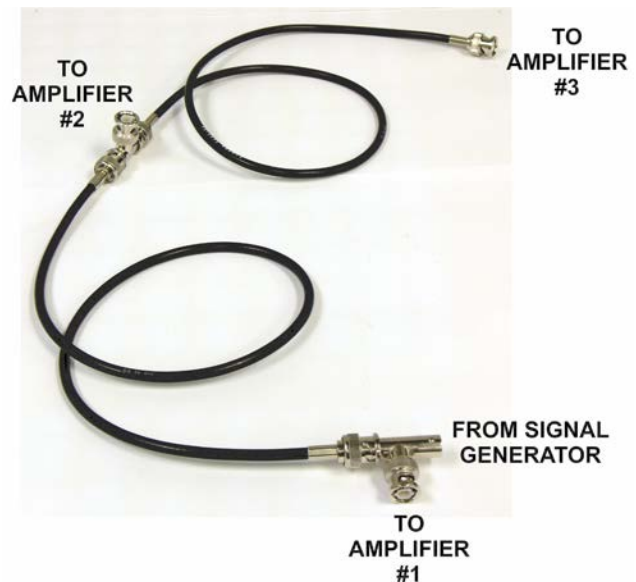

Figure 5.24– Parallel Unbalanced Input Wiring Using BNC Wiring and Connectors (Three in Parallel Shown)
- Alternately, you can connect an unbalanced input signal to the SIM-BNC's BNC input connector using the BNC parallel input wiring as shown in **Figure 5.24**. Set the INPUT SELECT switch located on the SIM-BNC input card on each amplifier to the LEFT position (unbalanced setting). Connect the input wire to a signal generator and to each amplifier in your system.